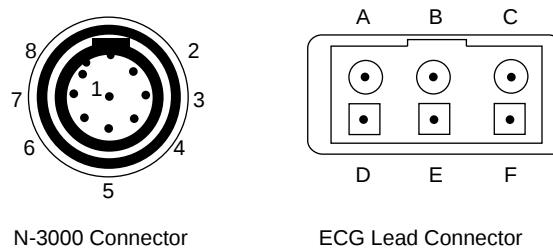

Figure 3-5: ECG Cable Pin Locations
1. Disconnect the SCE-10 ECG cable from the N-3000 and the ECG leads. Pin locations for both ends of the ECG cable are identified in Figure 3-5.